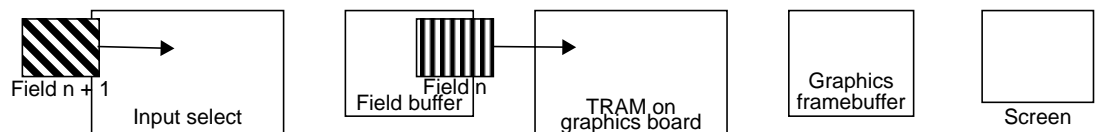

Figure 9-2 Video Delay Through Texture-Map Interface Field Buffer
2. When the next video field, $n + 1$, is being sent to the texture map interface hardware, field number n is being transferred out of the field buffer and captured into TRAM on the graphics board, as diagrammed in Figure 9-2.